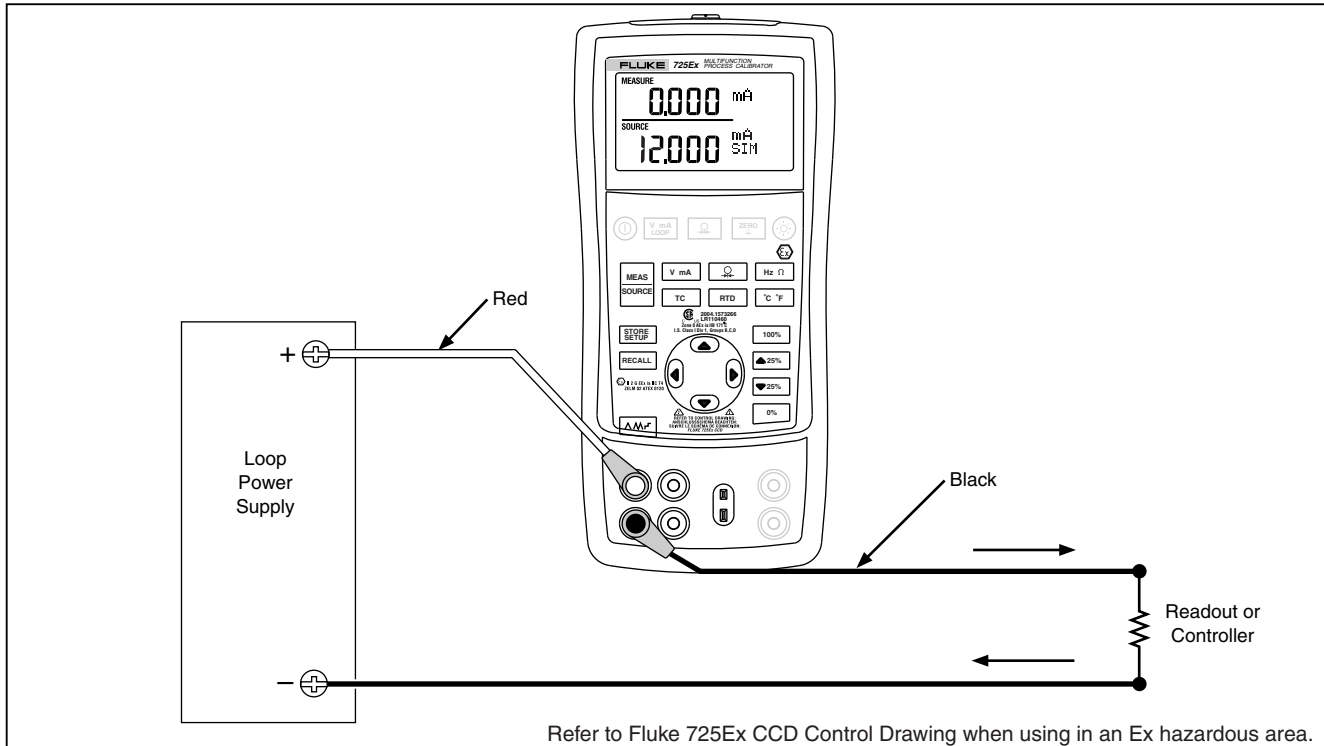

Figure 14. Connections for Simulating a 4 to 20- mA Transmitter in a non-Ex hazardous Area
1. Connect the 12-V-loop-power source as shown in Figure 14.